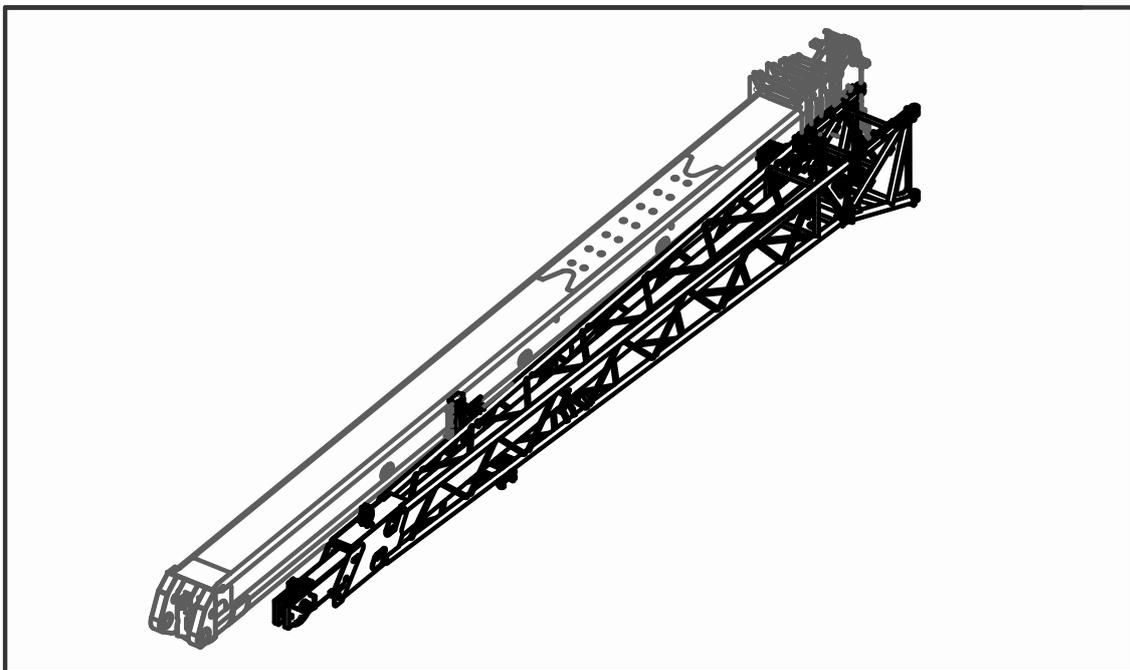

Fig. 05-01
- b) Telescope main boom in completely and derrick it down to the rear or the side in the -2° position. Ensure that there is 30m slewing range to the slewing center; See Fig.05-01;